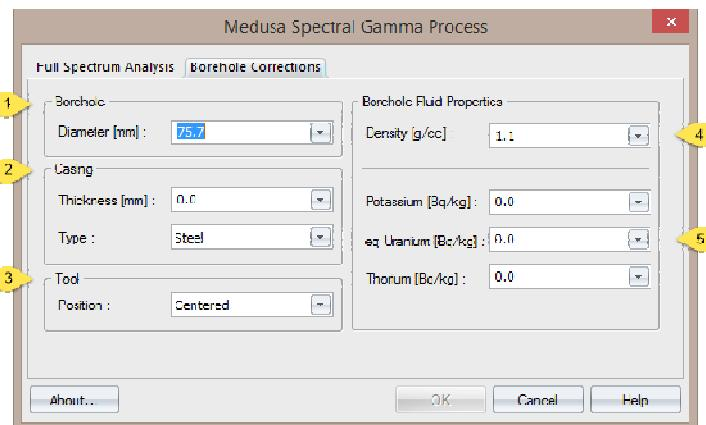

Figure 6 - FSA borehole correction parameters
Before commencing the FSA process the user should open the **Borehole Corrections** tab (**figure 6**) in the Medusa Spectral Gamma Process dialog box. Setting the correct parameters for borehole diameter (1), casing type and thickness (2), position of the logging tool in the borehole (3) and borehole fluid properties (density (4) and concentration of radioactive additives (5)) is advisable. Corrections will be applied to the derived radionuclide concentrations and output as an additional data channel (with a suffix “- Corr” in the log title).